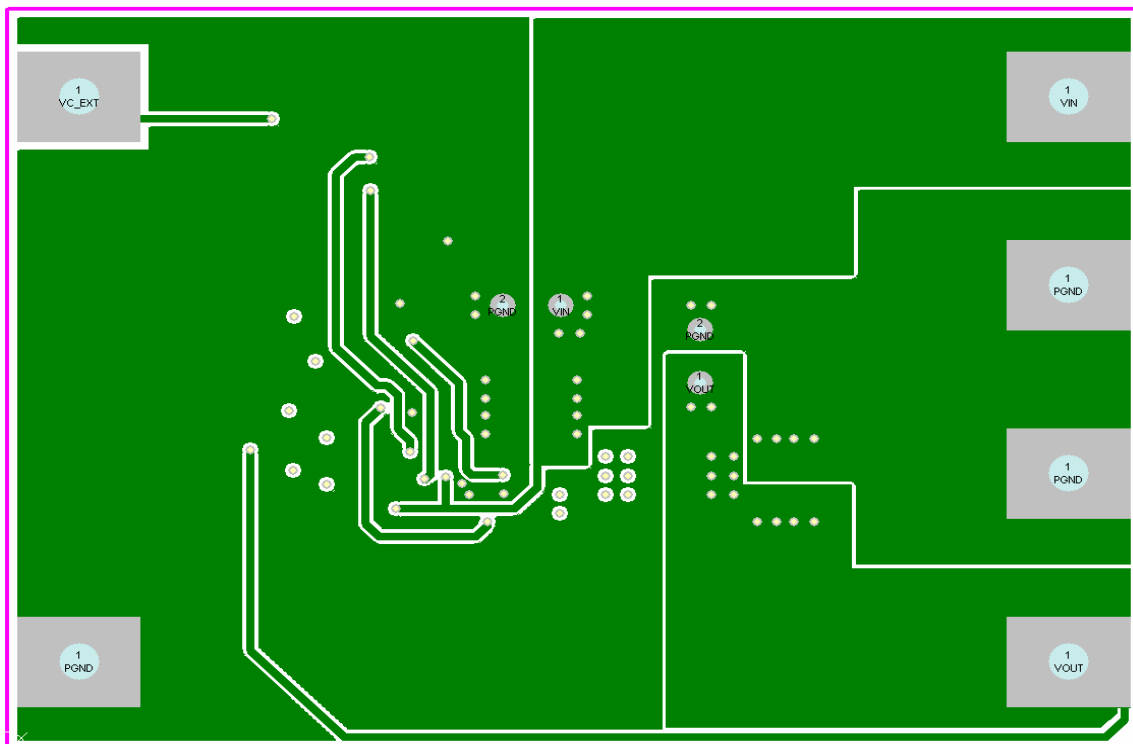

Figure 3c: IRPP3637-06A Reference Design mid-layer2 layout.
4. The feedback track from the output V_{OUT} to FB pin of the IC is routed as far away from noise generating traces as possible in mid-layer 2 as shown in figure 3c.